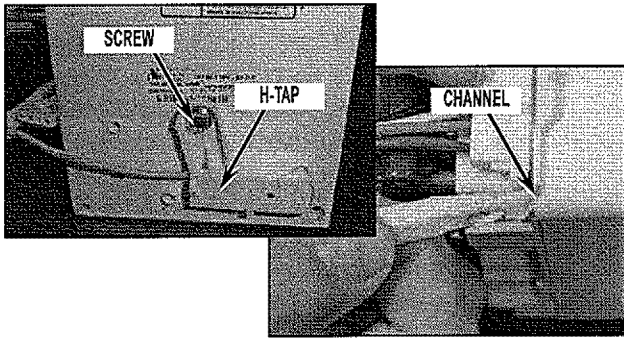

FIGURE 13
15. Use screw removed in step 3 from plastic mounting bracket to mount H-tap on new harness to module and snap module cover and harness assembly onto ice maker. Be sure to keep the harness in the channel. See *Figure 13*.